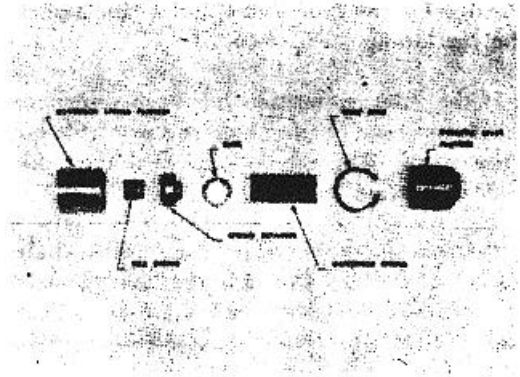

Figure 4-64. Variable speed governor spring assembly.
8. **VARIABLE SPEED GOVERNOR:** a. Install the governor plunger, idle spring, spring retainer, snap-ring, governor spring and throttle lever plunger in the spring pack housing. Fig. 4-64. Shims may be added under the governor spring during pump testing.